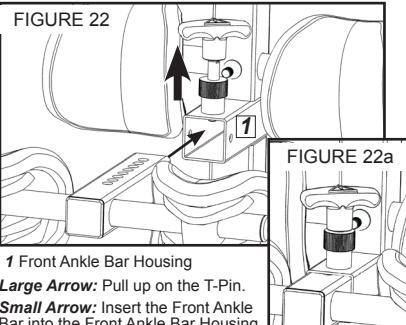

FIGURE 22a
- Pull up on the T-Pin Lock to allow the Front Ankle Bar to insert all the way into the housing. Release the T-Pin to engage in the hole setting closest to the Front Ankle Cups (Figure 22a).